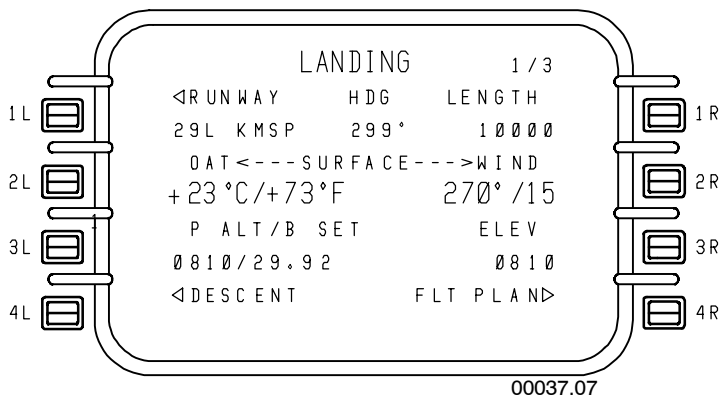

Figure 4–59
- **LANDING 1/3** – Figure 4–59 displays the following:
- **LANDING 2/3** – Figure 4–60 displays the following values: